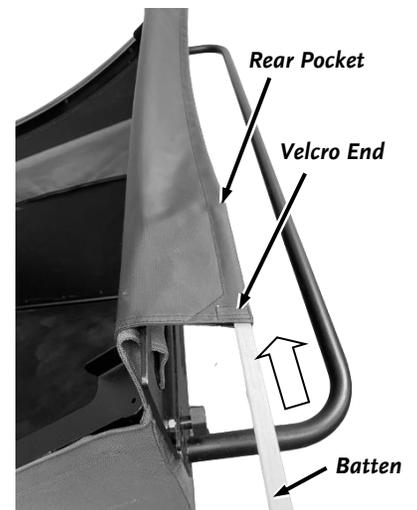

Figure 53
5. Install the Batten by slipping it into the rear door flap and velcroing the end shut (**Figure 53**).